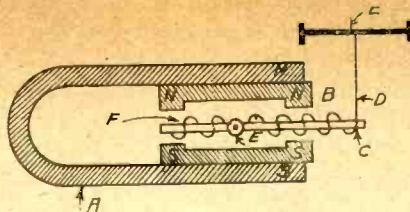

FIG. 464
Fig. 464 shows the general construction of a balanced type speaker unit. The armature is placed midway between the poles of the permanent magnet, the circuits being so arranged, that the permanent flux does not pass through the armature, this allowing the use of permanent magnets of great strength, which prevents the saturating of the armature. Only the variable magnetic flux, made by the amplified AF currents are carried by the armature (2). The semi-fixed balanced unit is built on identically the same fundamental principles, the armature being fixed in one position. The driving rod is usually connected then to a cone diaphragm. (3)—Yes.